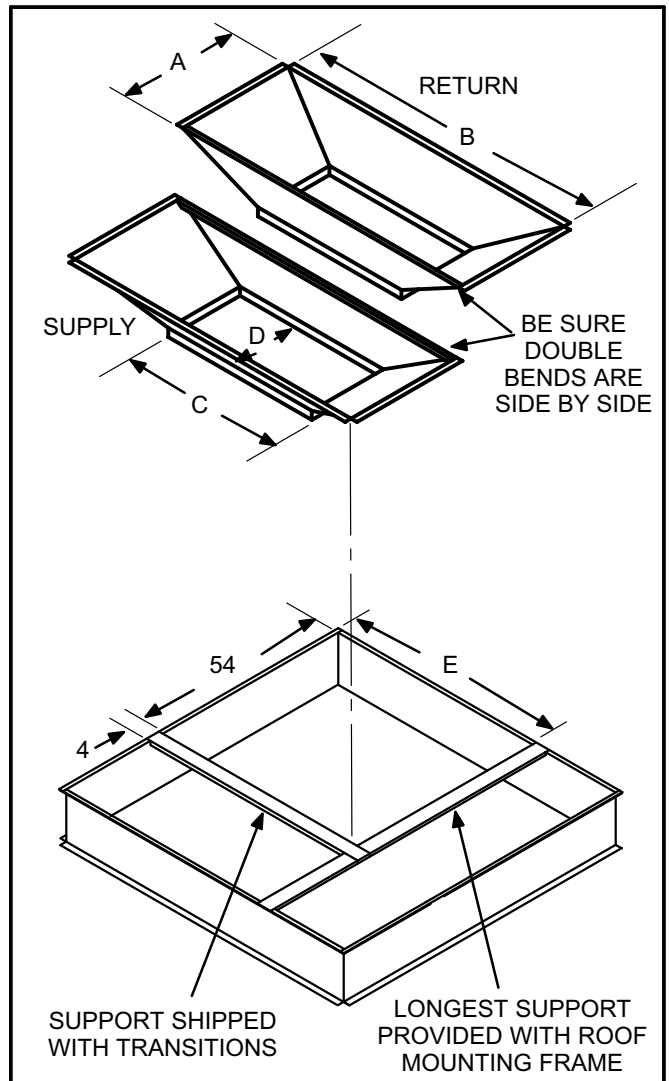

FIGURE 4
- 2- Install the supply and return air braces as shown in figure 4.